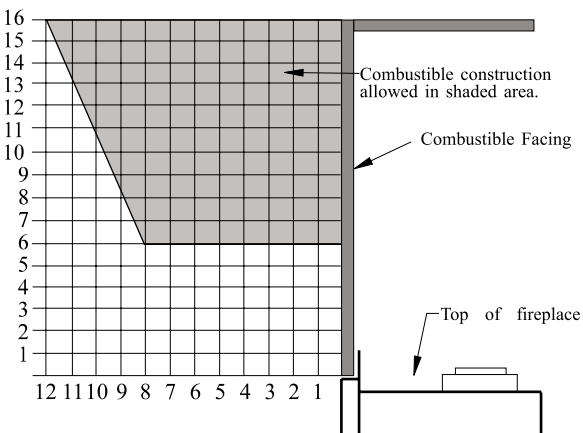

Figure 24a. Combustible mantles and facings for **C38DV**.
2. Place the Back log onto the back log rest as shown below in figure 24a. The log has lip on the bottom which fits into the slot on the log rest.